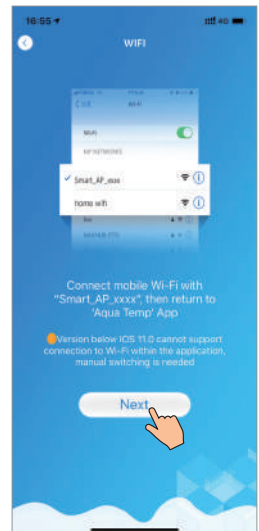
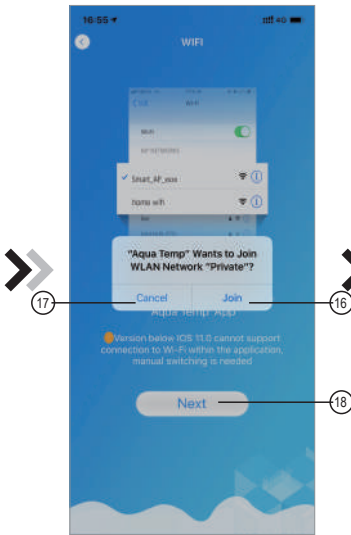
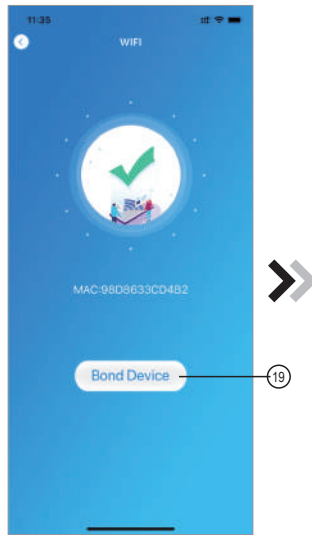

Fig.12 Connect specified WIFI
Fig.13 Configure Network interface
Fig.14 Bond Device interface
- Slide the page back to configure network interface (Fig. 12), click (16) to join WLAN Network, click (17) to cancel, click (18) to turn next page(Fig. 13); click (19) to bond device (Fig. 14);